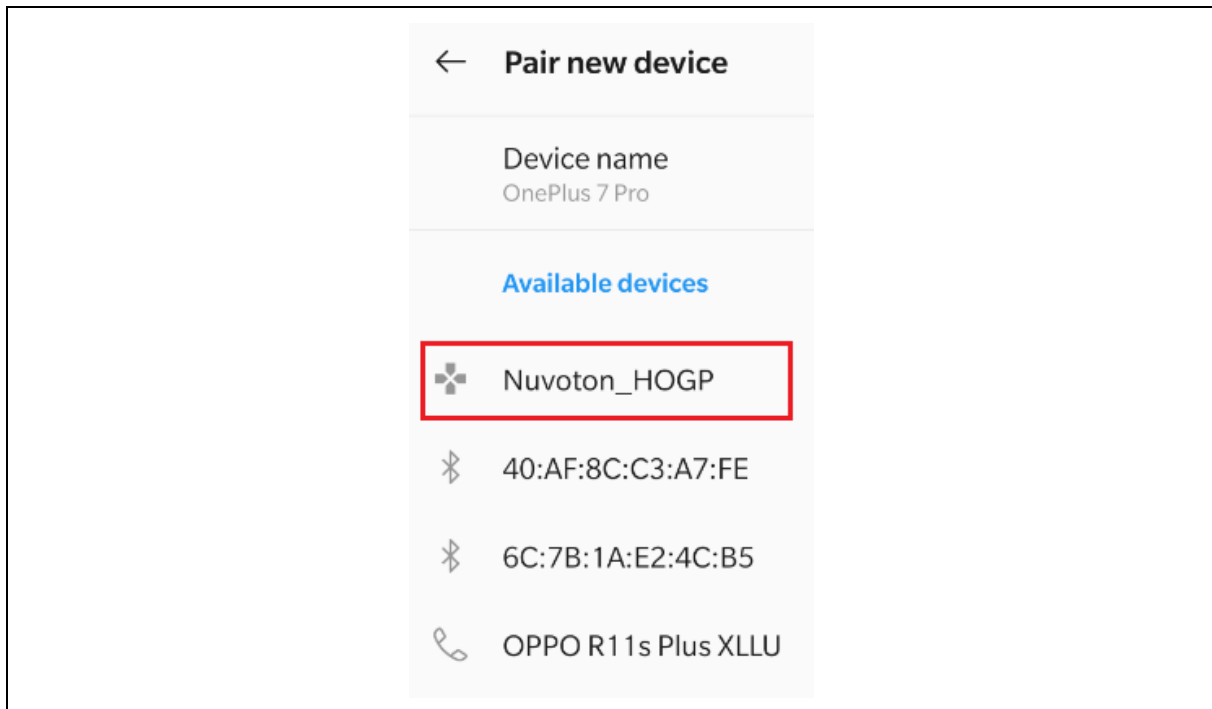

Figure 4-14 Available Devices for BLE Pairing
2. Enter “Settings” screen and select “Bluetooth & device connection”. In Bluetooth page, select “Pair new device”, and then you can see the available devices, as shown in Figure 4-14.